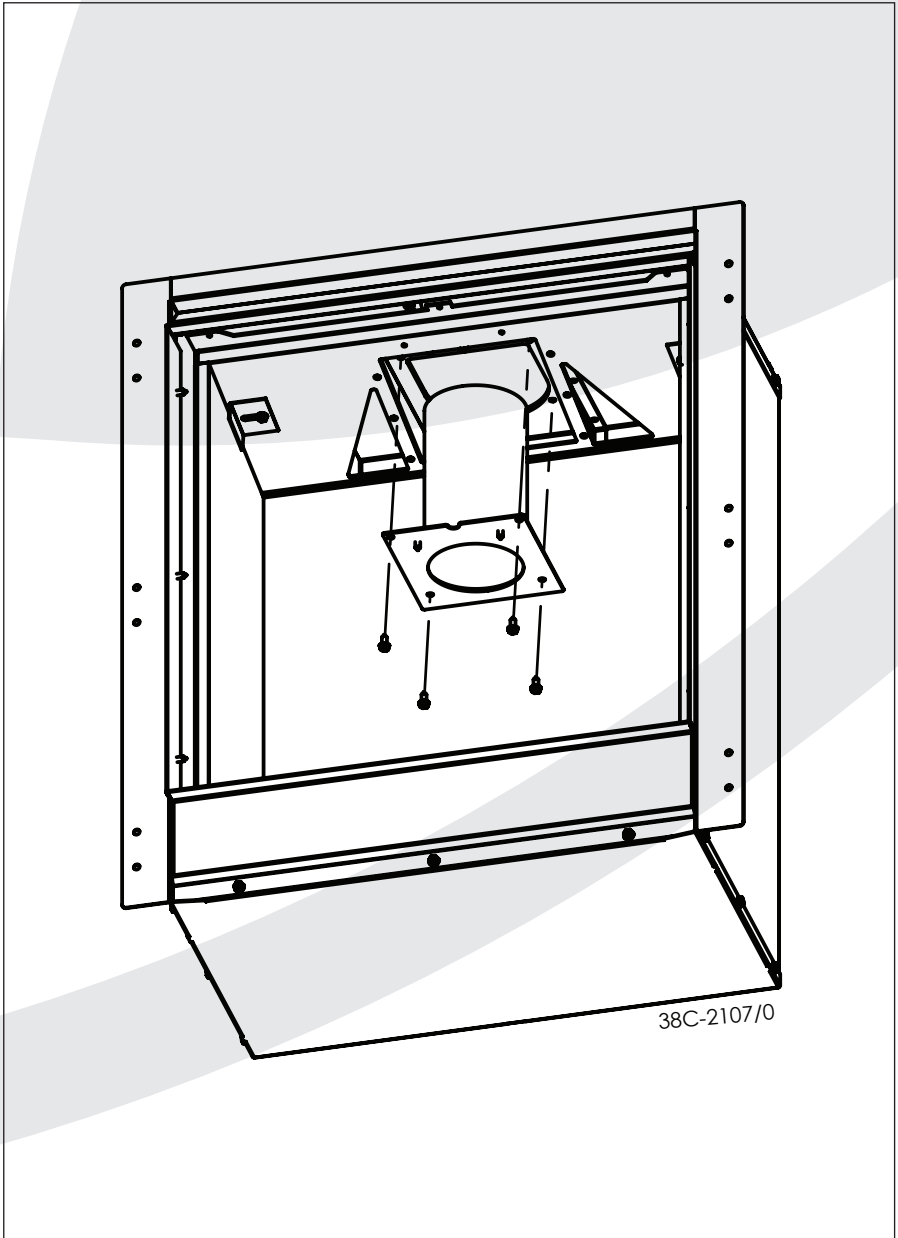

Fig. 3
- Unscrew the self-tapping screws in the flue spigot and remove (fig. 3).
- With the flue liner already fitted in the chimney, fit the appliance, pull the liner through the hole in the top of the appliance and secure/seal it to the flue spigot (see fig. 3)